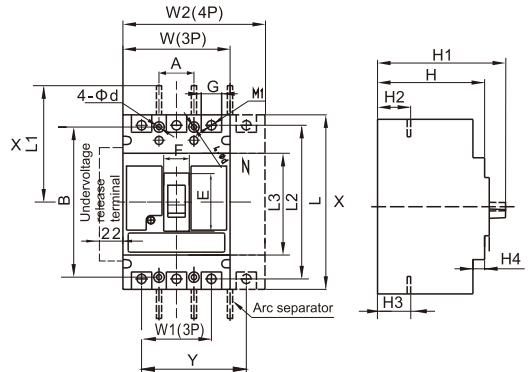
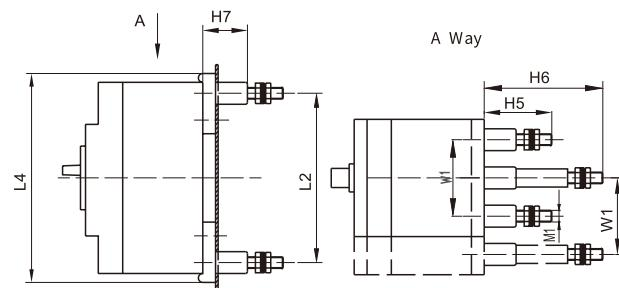
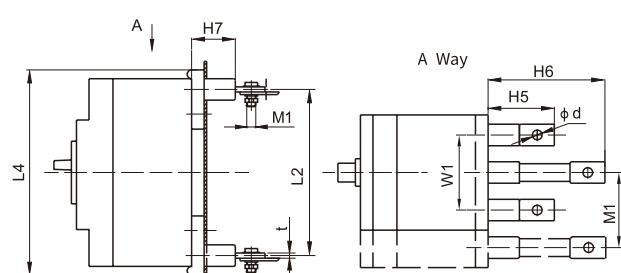

Fig.2 Fixed type front of board wiring
Fig.3 RDM1E-125, 250 Fixed type rear wiring
Fig. 4 RDM1E-400, 630, 800 Fixed type rear wiring
Appearance dimension as Fig. 2, Fig. 3, Fig. 4, Fig. 5, Fig. 6 and table 10
(1) Front of board wiring appearance dimension as Fig. 2 (X-X, Y-Y is the center of 3P circuit breaker)
(2) Rear wiring appearance dimension as Fig. 3, Fig. 4